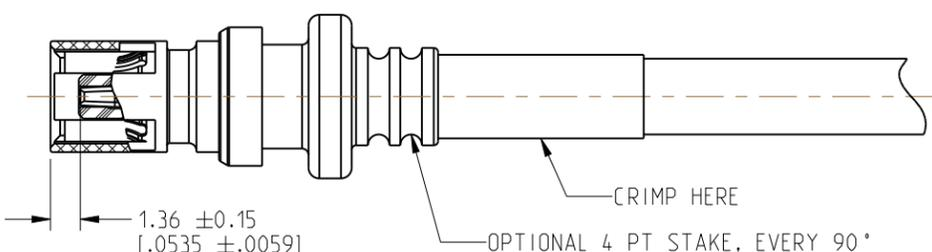

FIGURE 4
- OPTIONAL LEONI DACAR 462-2 CABLE PROCESSING MAY REQUIRE ADDITIONAL STAKING OPERATIONS FOR ENHANCED RF PERFORMANCE ABOVE 1 GHz. SEE FIGURES 4 & 9 - STAKE TO ACHIEVE INTERNAL BARREL ID 0.055 [1.40 mm]. CONTACT FACTORY FOR ASSISTANCE.